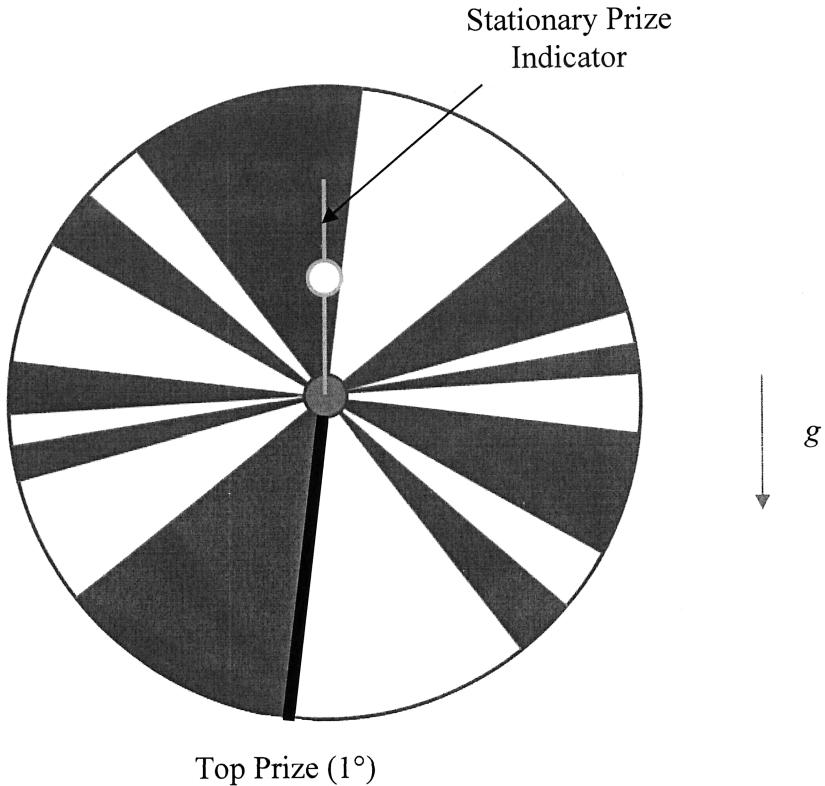

Figure 1: The spinning wheel of a ‘Wheel of Fortune’ game.
1. You are to design a mechatronic system to control a ‘Wheel of Fortune’ game at an amusement park (see Figure 1). In this game, the player can press one of the two buttons labelled ‘1’ or ‘2’ to start spinning the wheel in counter-clockwise or clockwise direction respectively. Once the button is released, the wheel will slowly come to its natural stop. If a white sector lands on the Prize Indicator which is pointing at the 12 o’clock position, a prize is won. The level of prize depends on the width of the sector, the smaller the sector, the higher the prize, with the top prize being a 1° wide sector. The system consists of 3 sub-systems, each controlled by an Arduino UNO MCU.
Figure 1 appears on page 2.